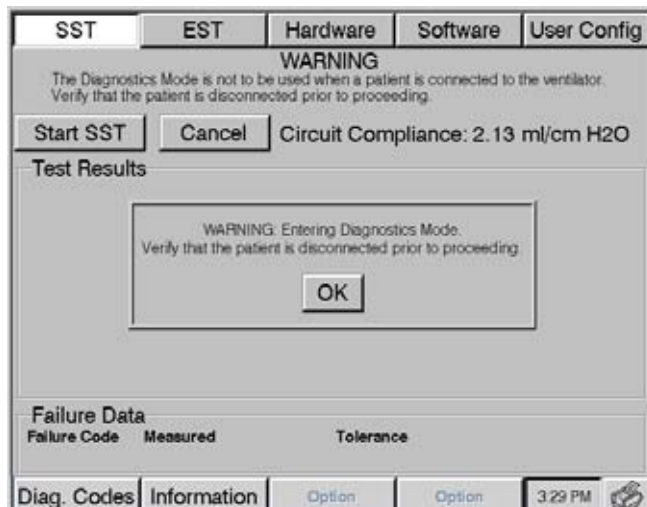

Figure 8-36: Entering Diagnostic Mode
5. Hold down the ALARM RESET and 100% O2 keys while the ventilator is powered up. The operator must confirm that the machine should be in Diagnostic Mode (Figure 8-36).